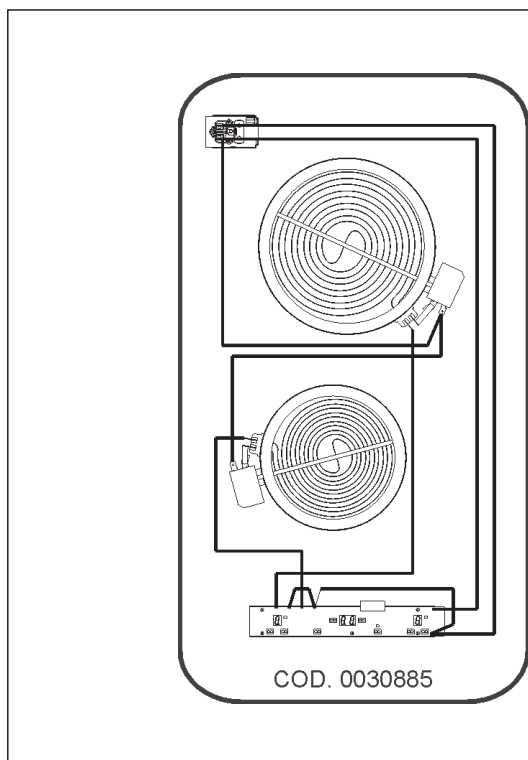

FIG. 8
- If the appliance is not equipped with an input cable, connect to the clump with an adequate section cable keeping the "earth" conductor longer than "live" ones, following the scheme of fig. 8 - 9 - 10 - 11.
- apply to the input cable "C", if unprovided, a normalized plug adequate to the load indicated in the identification label. Connect the cables according to the scheme of fig. 8 - 9 - 10 - 11, making sure to respect the undermentioned responses: